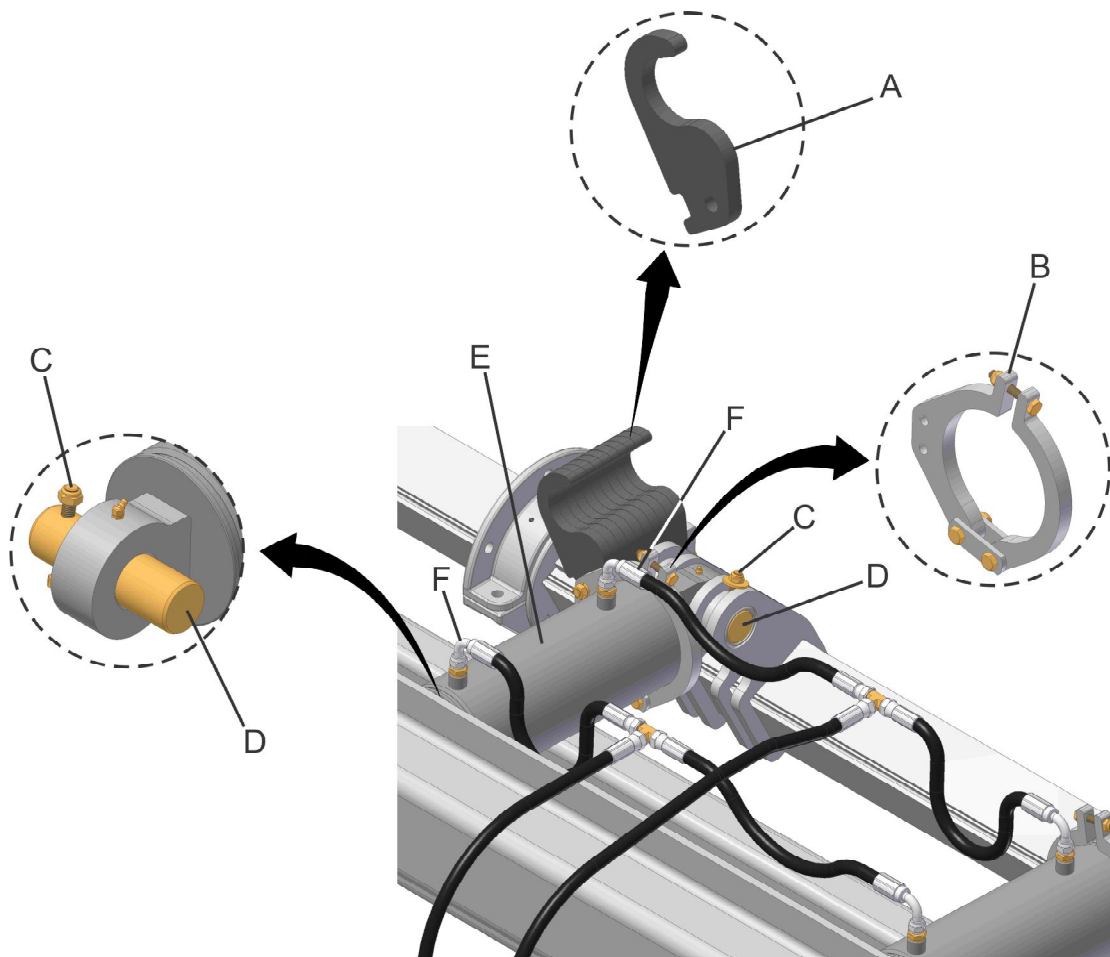

fig. 17
In sandy soils that are lighter and more loose, shims may be required (A) (fig. 17), which are fixed into the cylinder through the bracket (B) to help in depth control.
Removing cylinder (E) (fig. 17) take away the security screw (C) from the pins (D); remove the hoses (F) from the cylinder and take away the pins (D).
Put the security devices (A) (fig. 17) to avoid the overload on the hydraulic cylinders when transporting the planter.